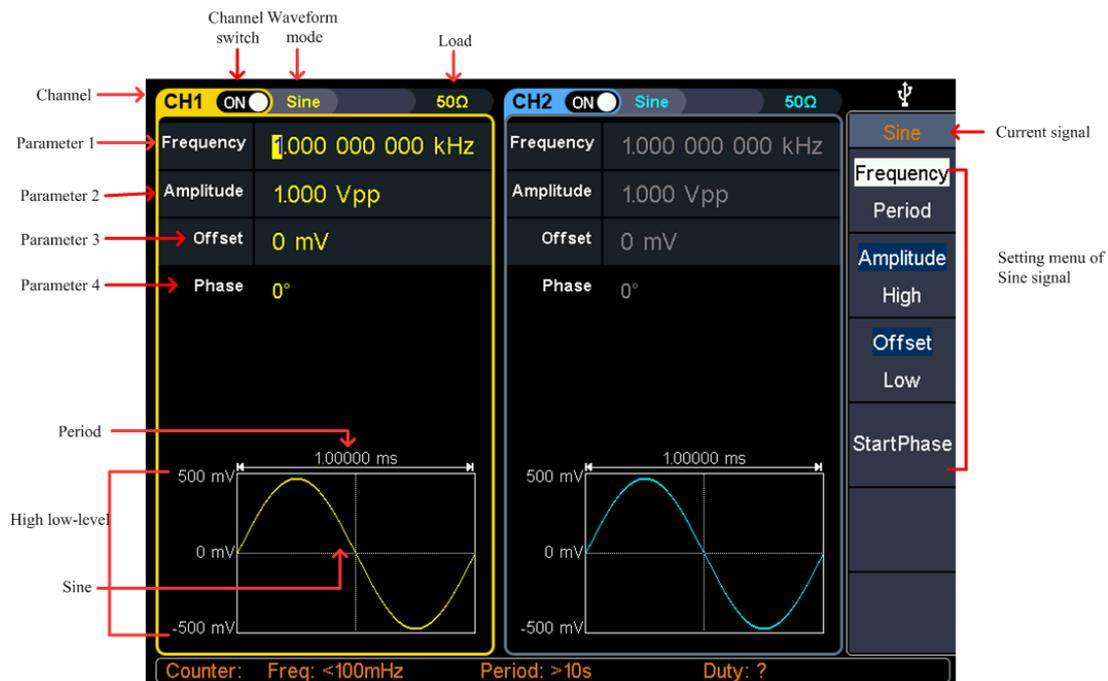

Figure 5-1: Sine wave user interface
Press the **Amplitude/High Level** softkey to confirm whether the **Amplitude** menu item is highlighted; if not, press the **Ampl/High** button to switch to **Amplitude**. In **parameter 2** of Figure 5-1, the parameter value of the amplitude appears as a blinking cursor. Use the **knob** or **numeric keypad** to set the desired value.
Press the **Offset/Low Level** softkey to confirm whether the **Offset** menu item is highlighted; if not, press the **Offset/Low level** key to switch to **Offset**. In **parameter 3** of Figure 5-1, the parameter value of the offset appears as a blinking cursor. Use the **knob** or **numeric keypad** to set the desired value.
Press the **Amplitude/High level** button to confirm whether the “High level” menu item is highlighted; if not, press the **Ampl/High level** button to switch to “High level”. In **parameter 2** of Figure 5-1, a high-level parameter value appears as a blinking cursor. Use the **knob** or **numeric keypad** to set the desired value.
**parameter 3** of Figure 5-1, a low-level parameter value appears as a blinking cursor. Use the **knob** or **numeric keypad** to set the desired value.
Press the **Start Phase** softkey to confirm whether the **Start Phase** menu item is highlighted; if not, press the **Start Phase** key. In **parameter 4** of Figure 5-1, the parameter value of the starting phase appears as a blinking cursor. Use the **knob** or **numeric keypad** to set the desired value